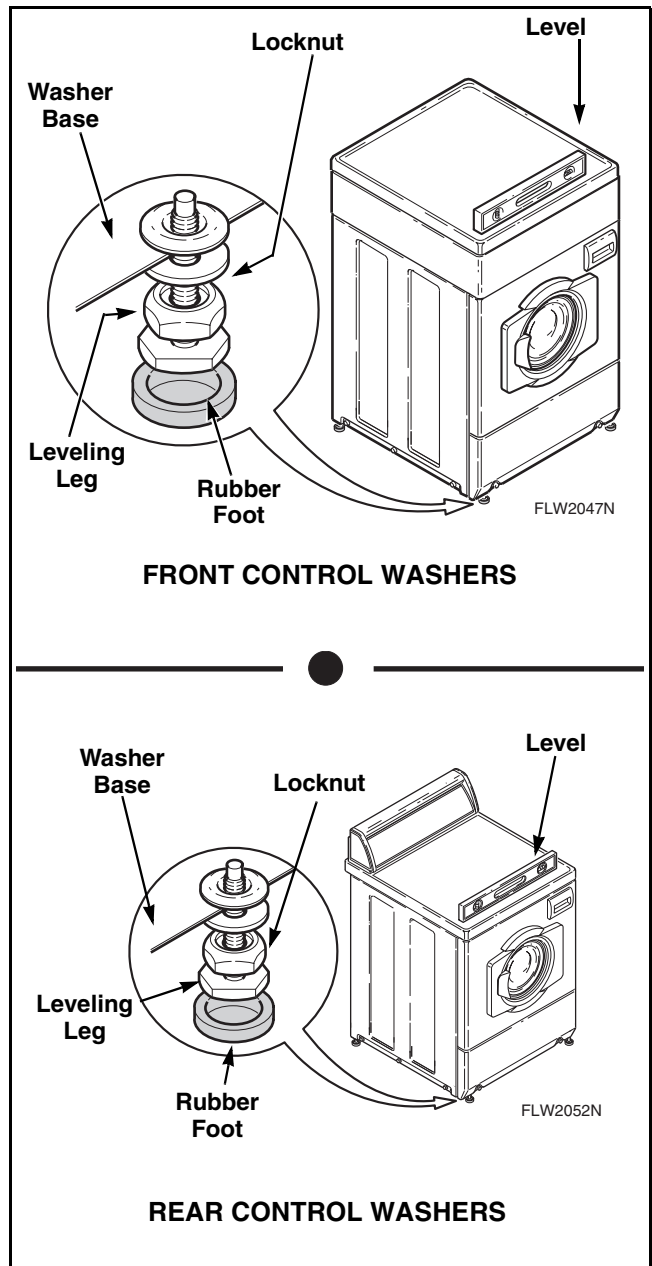

Figure 28
- Loosen locknuts and adjust the leveling legs until the washer is level from side to side and front to back. Make sure washer **does not rock**. Refer to *Figure 28*.
NOTE: Level must rest on raised portion of top panel. Refer to *Figure 28*.
- Place rubber feet on all four leveling legs. Refer to *Figure 28*.